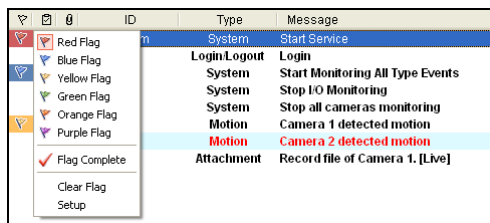

Figure 1-37
1. On the Event List window, select one event, and right-click in the flag column. The flag list appears (Figure 1-37).